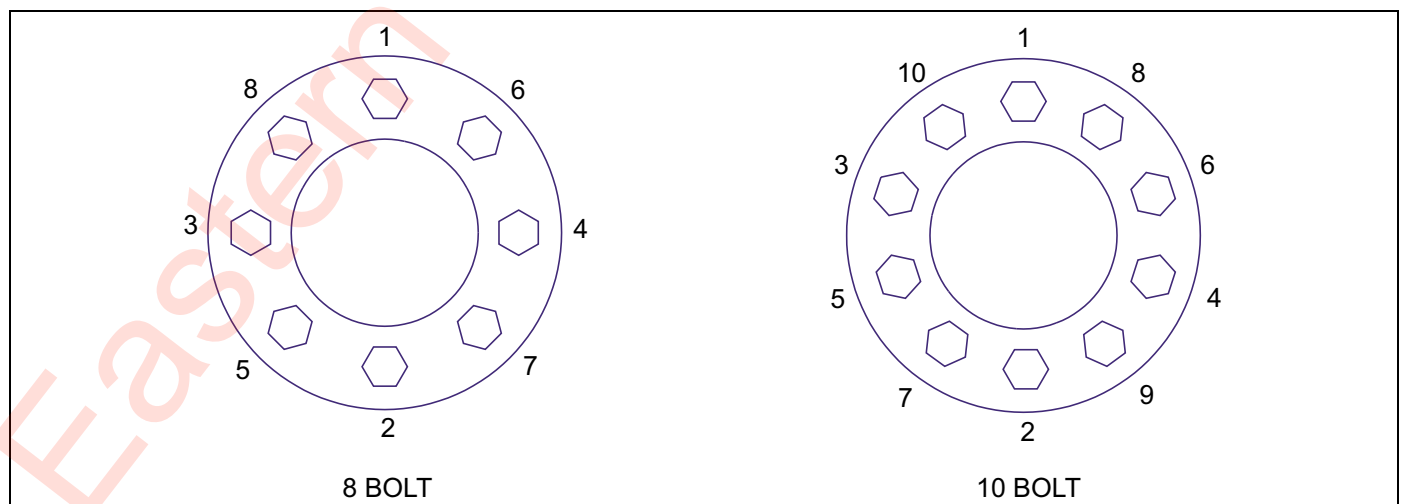

Figure 4-18: Stud Tightening Sequence
4. Install the flange nut (pilot mount) and tighten to 50 foot-pounds using the sequence in Figure 4-18. Then tighten to full torque of 450 to 500 foot-pounds.
Improper tightening sequence	Follow proper tightening sequence ( See Figure 4-18. )